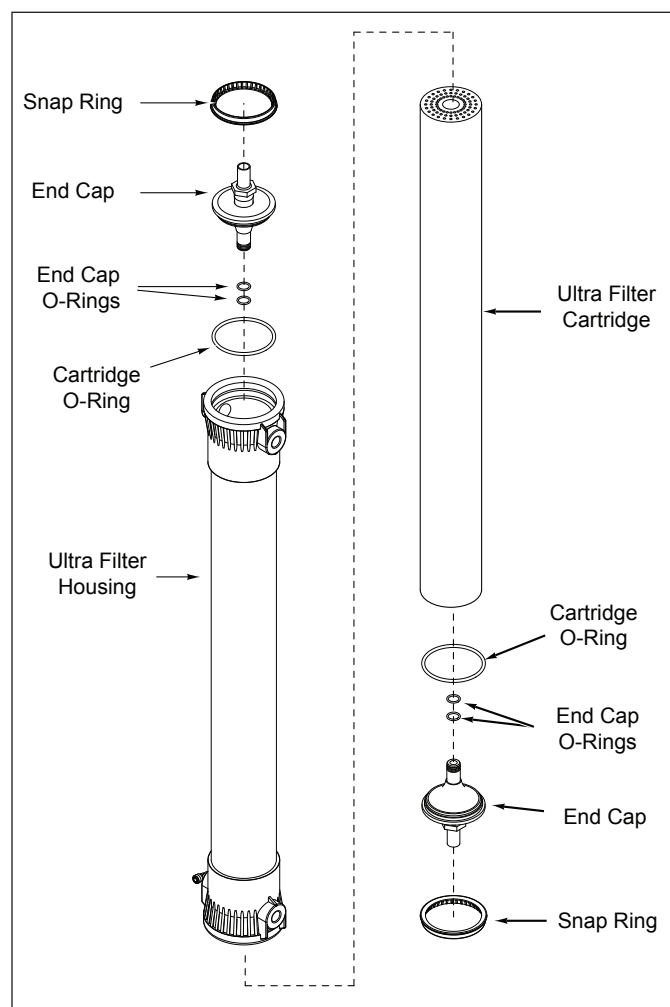

Figure 10. Replacing the Ultra Filter Element
4. See Figure 10. The lower End Cap, End Cap O-ring, and Cartridge should easily drop down out of the housing. If not, pull gently on the end cap to remove the cartridge.